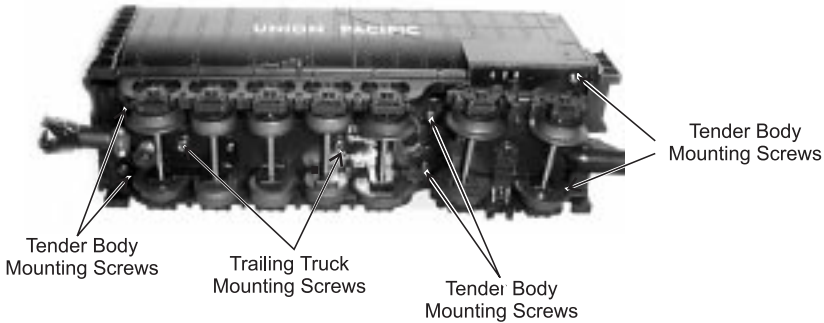

Figure 5: Removing the Big Boy Tender Shell
1. Remove the tender shell on the Big Boy tender by unscrewing the six screws on the tender chassis as seen in Figure 5.